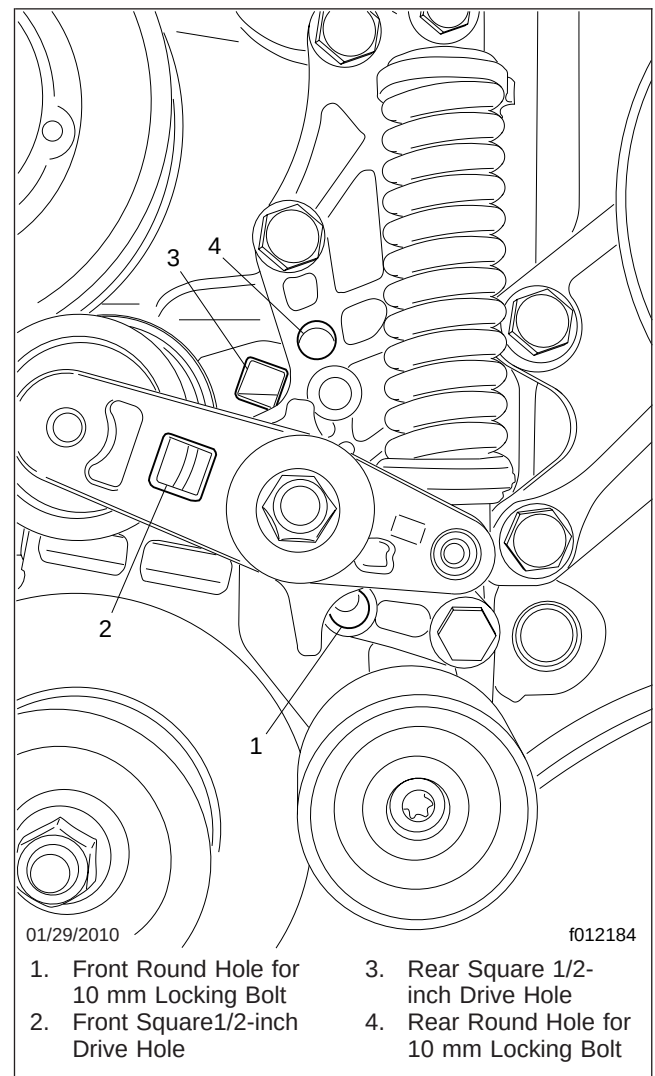

Fig. 2, Belt Tensioners Assembly
4. Locate the automatic belt tensioner assembly, on the left (passenger) side of the engine, as you are facing it. Familiarize yourself with the location of the square, front and rear 1/2-inch drive holes, and the round, front and rear holes for the locking bolts. See Fig. 2.